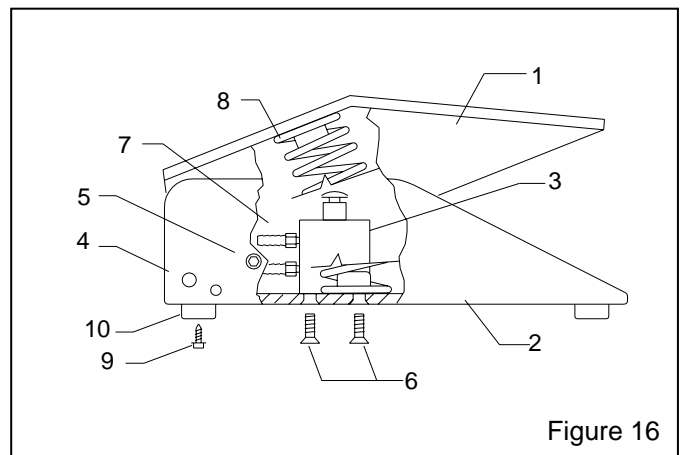

Figure 16
8.4 Foot Pedal Assembly, Figure 16